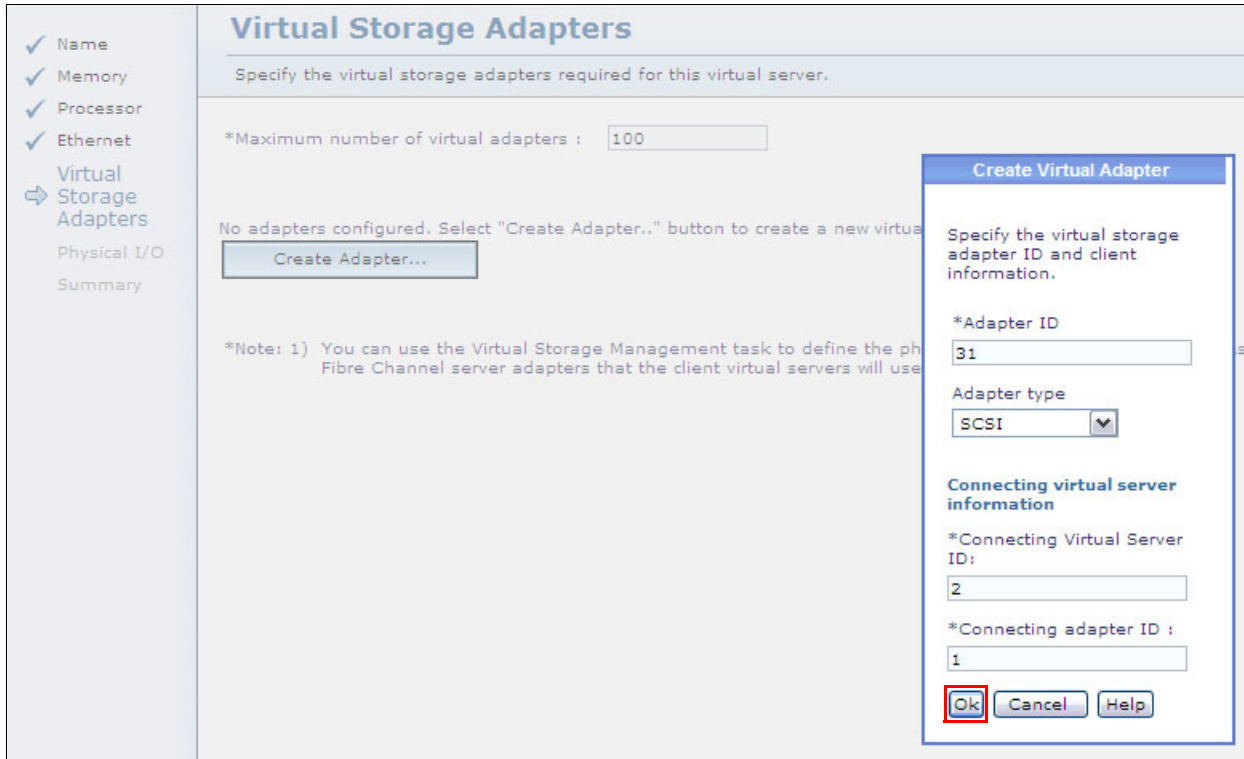

Figure 10-14 Creating the VIOS profile: Create Virtual Adapter continued
12. Define the connecting VIOC ID and an adapter ID, as shown in Figure 10-14. After you enter parameters for virtual storage adapters, click **OK**.